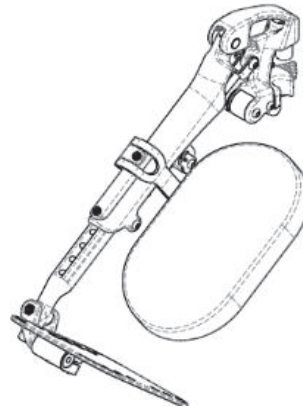

Figure 14.10: Elevating Legrest Footrest Height adjustment
1. Orient the footrest at approximately 45° outboard of the wheelchair as shown in Figure 14.10
2. To release the locking mechanism, push the release lever as show in Figure 14.10